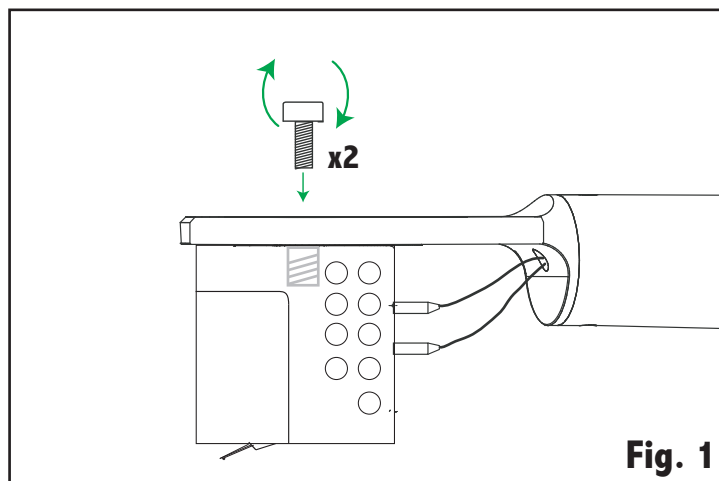

Fig. 1
1. Mounting the cartridge on the tone arm Head-Shell using the supplied Allen Wrench and one set of the 2,5mm screws. Adjust it to the stylus position specified for the turntable system you are using mounting it properly without tilting or turning it. (See Figure 1.)